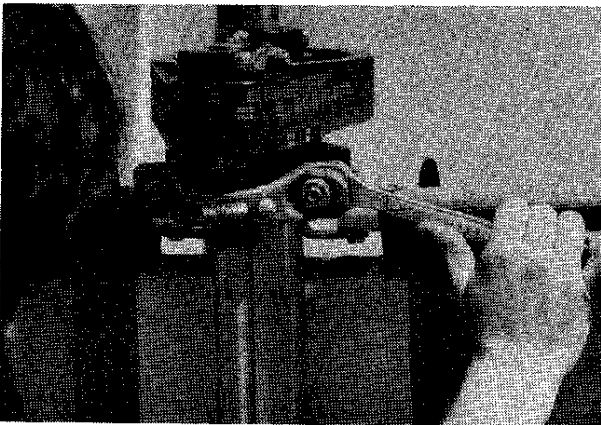

Figure 2.16
21. Unthread (2) lower inner locknuts evenly to adjust belt tension (see Assy. & Parts Manual for specifications). Tighten lower outer locknuts. **Figure 2.16**